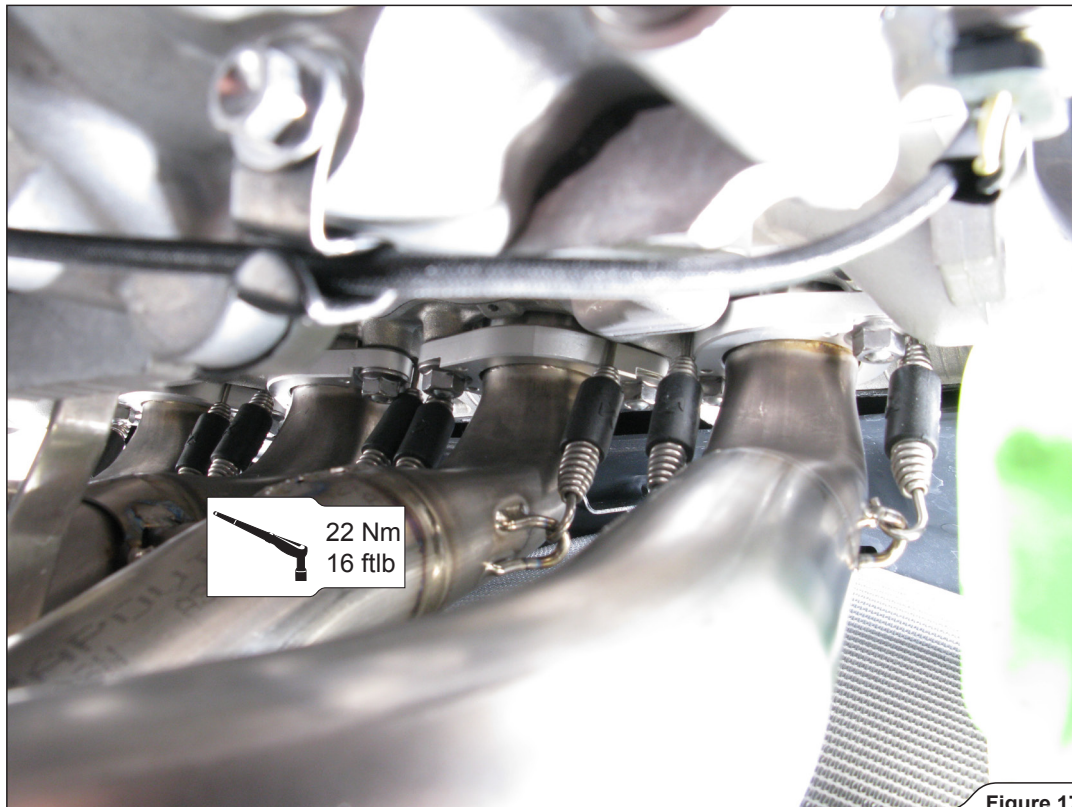

Figure 17
5. Insert the assembled header tubes into the sleeves properly, attach the springs and tighten the flanges to a specified torque (**Figure 17**).